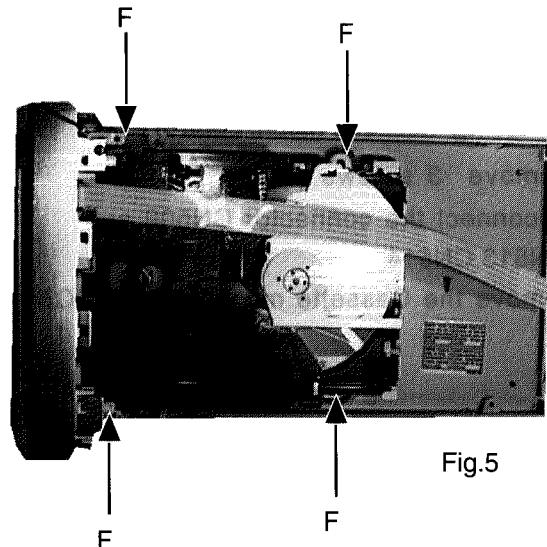

Fig.5
2. Remove 4 screws (F)fastening the CD changer mech.ass'y (Fig.5).